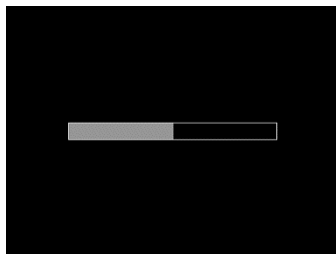

Figure 5-27 *Firmware Update screen*
- 4) Press **SETTING** button, then select **About**. Press **OK** button to enter About, select **Update** to upgrade the tool (Figure 5-27).